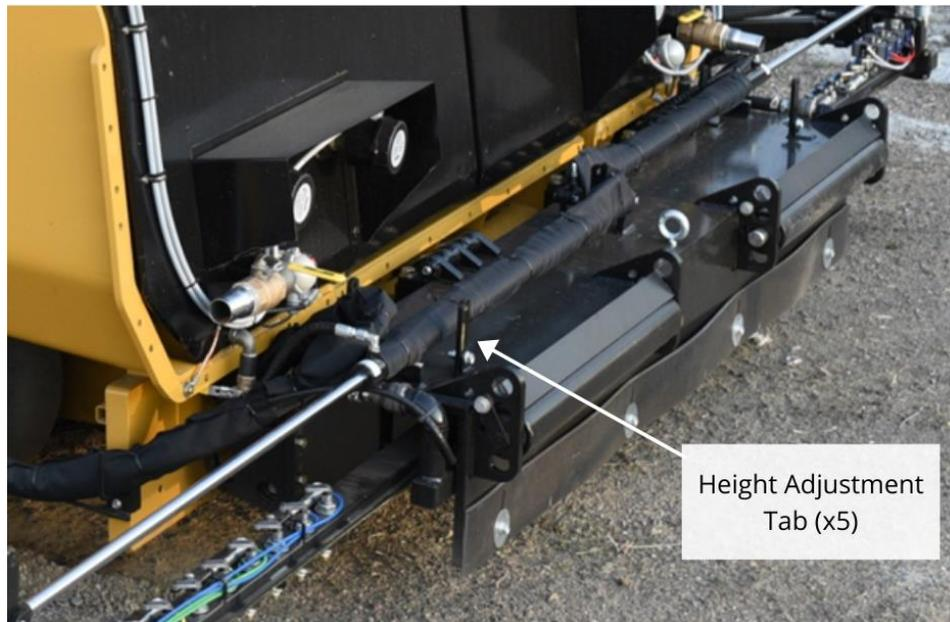

Figure 12: Front spray bar height adjustment tabs
- b. Remove the fasteners in the five front spray bar height adjustment tabs (see Figure 12).